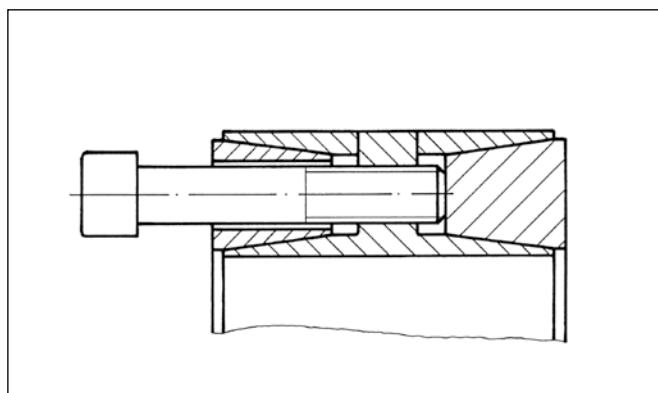

Figure 3: Removal rear thrust ring
2.2 The rear thrust ring is released by having the jack screws inserted in the threaded bore of the inner ring web and thus pushing it out (Fig. 3).